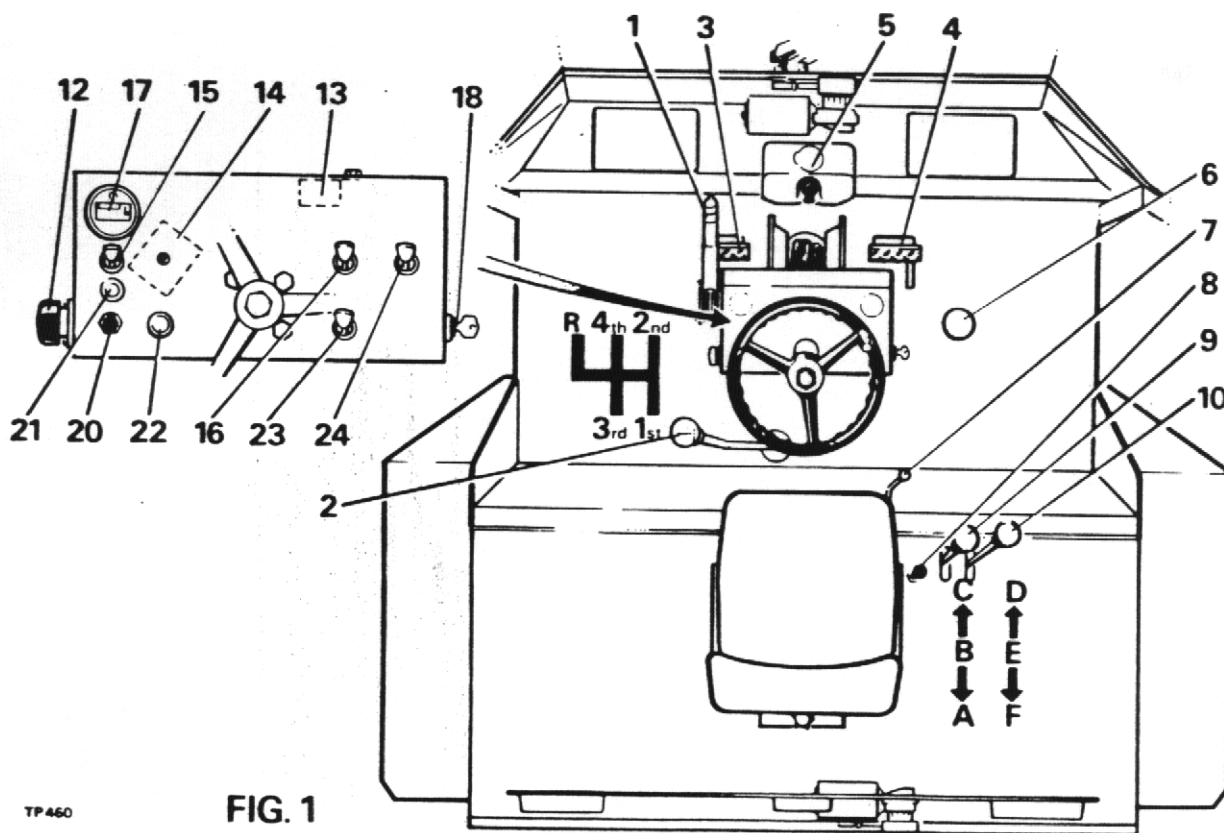

FIG. 1
Each lever is spring biased to the centre (hold position) and can be moved either side of this position (See Fig.1) the lift control lever (9) positions are UP (A), HOLD (B) and DOWN (C). The tilt control lever (10) positions are FORWARD (D), HOLD (E) and BACKWARD (F), when either lever is released it will automatically return to the HOLD position.